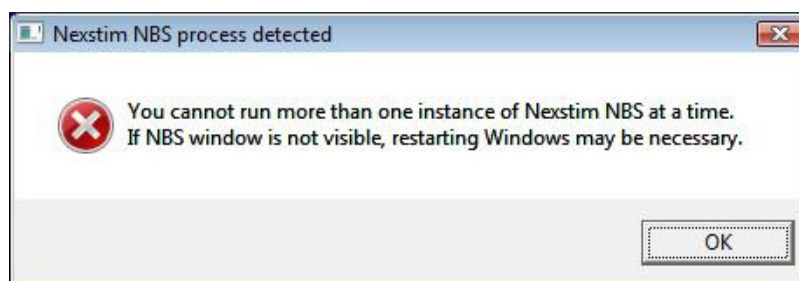

**Fig. 138.** Nexstim NBS licence key not valid or missing
**Situation:** The NBS software license key is lost or missing, and Nexstim NBS software cannot be started (see Figure 138).